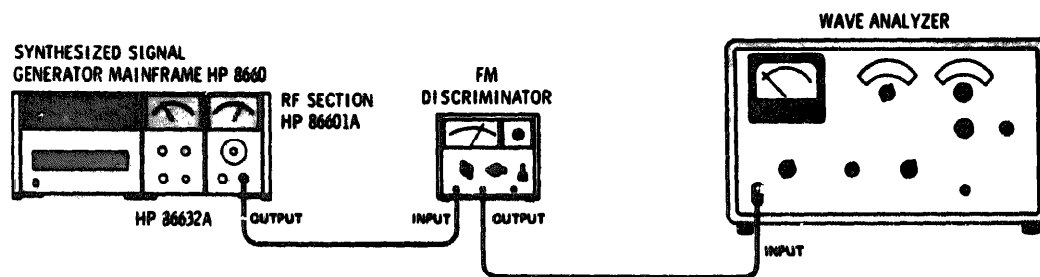

Figure 4-13. Frequency Modulation Test Setup
1. Connect the equipment as shown in Figure 4-13.